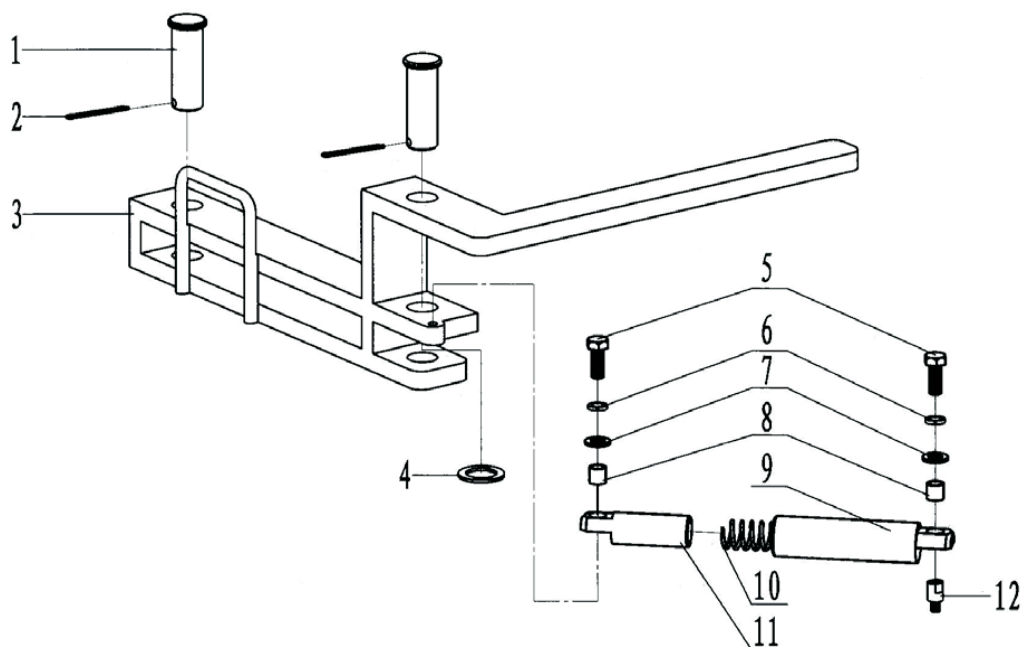

Fig.26
7.23 Backup tong safety door assembly(Fig.26,Table26)